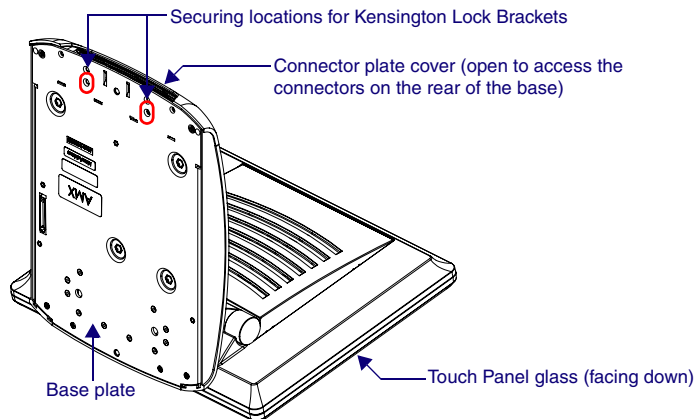

FIG. 2 Location of the securing locations on an NXT (Table Top) panel
- Gently place the touch panel LCD facedown onto a soft cloth to expose the under-side of the base and prevent scratching of the LCD (FIG. 2).
- Tilt the base forward so that the bottom surface of the base is easily accessible. This provides access to the underside of the unit and exposes the securing location for the Kensington Lock Bracket (FIG. 2).
- Raise the Connector Plate Cover, and align the openings on the bottom of the Raised Lock Bracket to the securing locations on the Base Plate of the panel (FIG. 2).